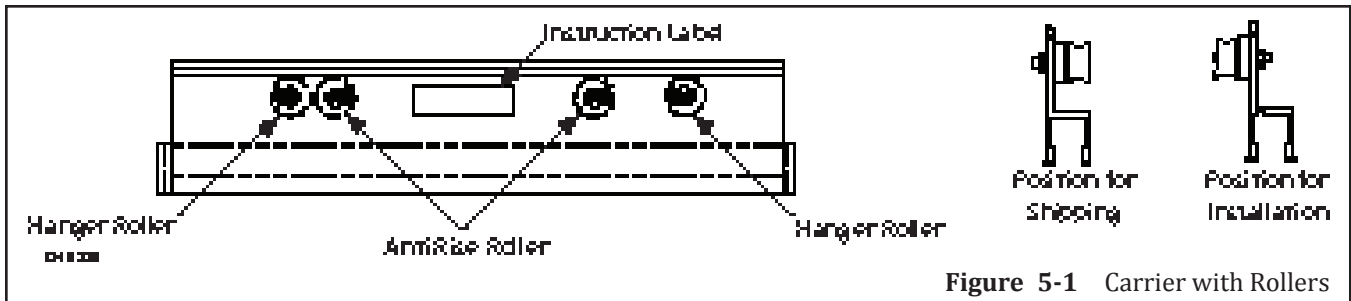

Figure 5-1 Carrier with Rollers
1. Go to the front side of Carrier located on Top Rail. Remove each Hanger Roller by loosening the nut on with a 1/2" open end Wrench. Please see Figure 5-1.